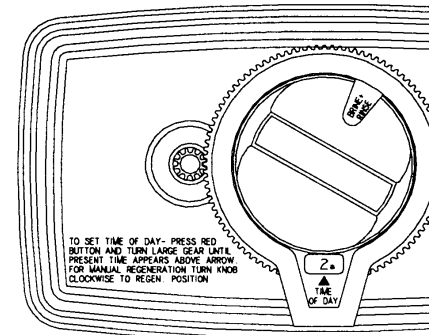

Figure 8
6. After the water has cleared, manually advance the conditioner to the brine and rinse position by turning the manual regeneration knob clockwise until "brine & rinse" appears in the window (Figure 8). Check that water in the brine tank is being drawn out.